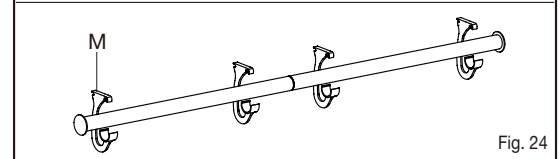

Fig. 24
- Position closet rod assembly at desired location and snap into closet rod brackets (M) (see Fig. 24 and Fig. 25).